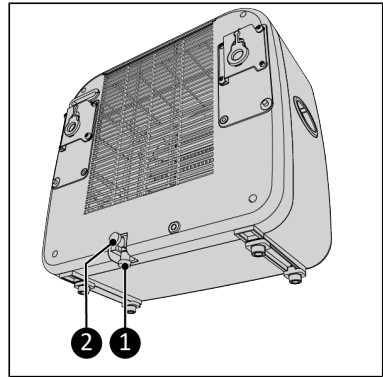

Figure 20.
1. Remove one of the two sealing caps (Figure 20, pos. 1 or pos. 2).
- both sealing caps of the indoor unit are mounted (Figure 20, pos. 1 and 2);
2. Connect the supplied drain hose to the bottom of the indoor unit, see Figure 20.
4. Drain the water from the indoor-unit (Figure 20).